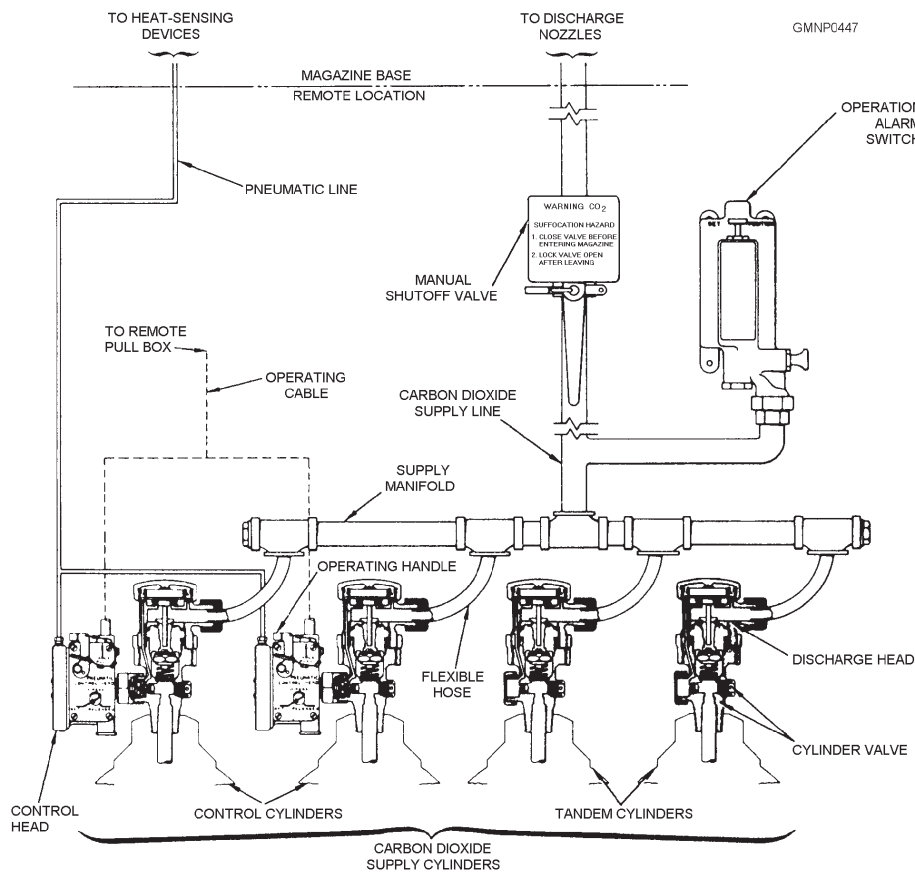

Figure 8-21.—Components of a CO₂ system; outside magazine structure.
SUPPLY CYLINDERS.—GMLS fixed CO₂ systems usually have at least two supply cylinders. Each cylinder has a 50-pound CO₂ capacity and weighs 165 pounds when fully charged. It contains liquid carbon dioxide under a pressure of 850 psi at 70°F. Each cylinder of the system has a discharge head and a cylinder valve. At least one of the cylinders will also have a pneumatic control head. The other cylinder(s) will be in tandem with the main control cylinder(s). See figure 8-21.
Pneumatic Control Head.—A pneumatic control head (shown in fig. 8-21) reacts to HSD pressure signals or to manual operating levers. The control head is tripped to open the discharge head and cylinder valve, which release the liquid CO₂ from the cylinder. The control head consists of an air chamber with a diaphragm. The control head also has two plungers, safety locking pins, and a manual (local) operating lever.
When the plungers from the "tripped" control head open the pilot seat, CO₂ flows into the chamber above the discharge head piston. The piston is shifted (down) against its spring. The ball check valves trap gas pressure in the upper chamber. This keeps the piston open (down) and ensures rapid and complete cylinder discharge. Shifting the piston opens the cylinder valve, allowing CO₂ to flow to the exhaust manifold and supply lines. (See fig. 8-21.)
MISCELLANEOUS COMPONENTS.—A manually operated shutoff valve is installed in the CO₂ discharge line between the supply cylinders and discharge nozzles. (See fig. 8-21.) The valve is physically located outside the magazine near its entrance. To avoid a CO₂ suffocation hazard, unlock the valve and close it before you enter the magazine. If the system should activate, the supply cylinders will release CO₂. However, the closed valve will stop the CO₂ so that you can keep breathing.
CO₂ pressure entering the supply line activates an operation alarm switch (fig. 8-21). Audible alarms and lights are turned on, signaling that the CO₂ system has activated. These warning devices are usually located right outside the magazine area and at the ship's damage control (DC) central room. The switch must be manually reset if activated. The alarm circuits may be maintenance-tested.